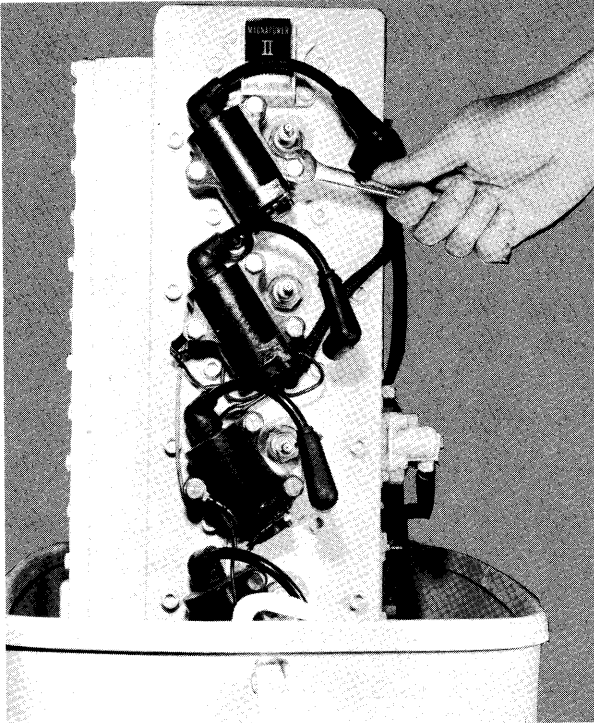

Figure 9 - Removing Ignition Coil
- C. Remove three (3) screws and plain washers securing coil to cylinder head cover and remove coil. See figure 9.